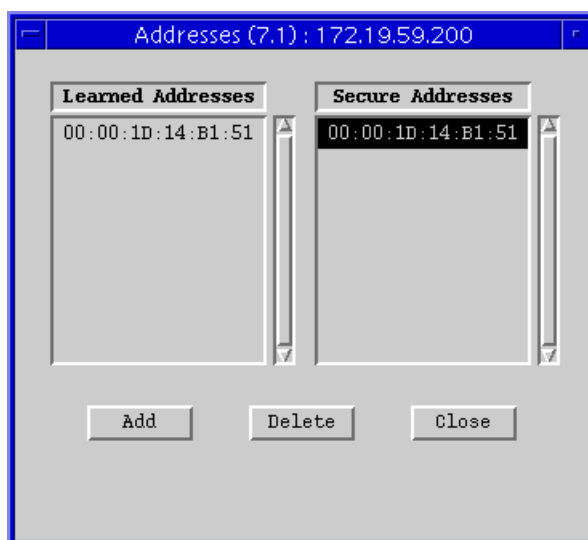

Figure 7-3. The Addresses Window
2. Click on ; the Addresses window, Figure 7-3, will appear.